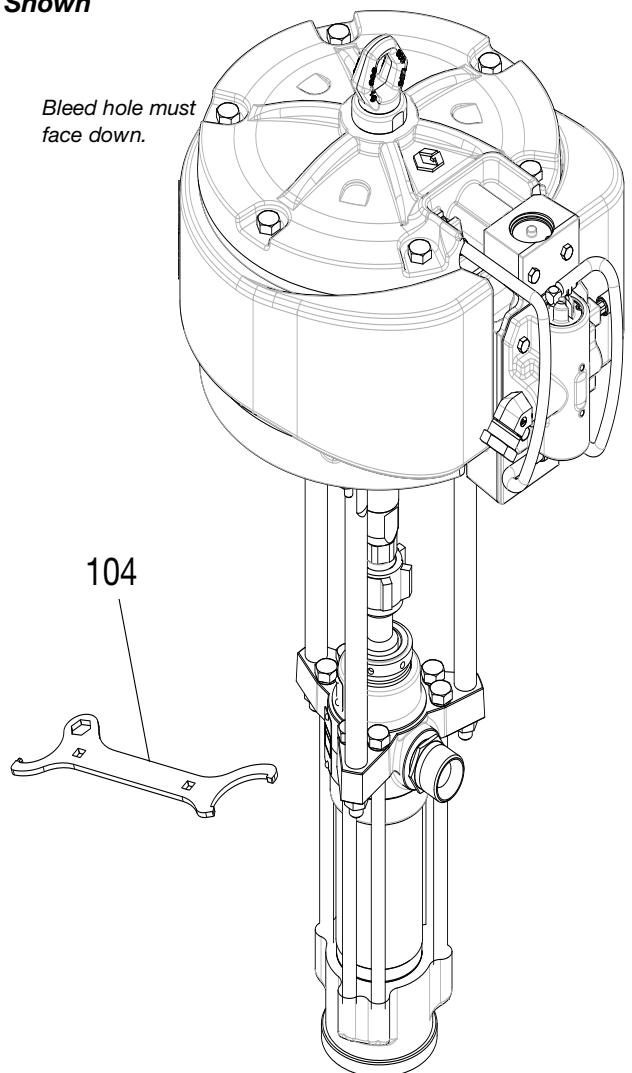

Fig. 6
Fill the packing nut/wet-cup (3) 1/3 full with Graco Throat Seal Liquid (TSL) or compatible solvent. See Fig. 6. Using wrench (104) (order separately), adjust the packing nut weekly so it is just snug; do not overtighten. Follow the **Pressure Relief Procedure** at left.
4. If the pump fails to prime properly, open the bleeder valve (35) slightly. Use the bleed hole on the underside of the valve body (34) as a priming valve until the fluid appears at the hole. See Fig. 6. Close the plug (35).
**NOTE:** When changing fluid containers with the hose and gun already primed, open the bleeder valve plug (35), to assist in priming the pump and venting air before it enters the hose. Close the bleeder valve when all air has been eliminated.
8. If the pump fails to prime properly, open the bleeder valve (35) slightly. Use the bleed hole, on the underside of the body (34), as a priming valve until the fluid appears at the hole. See Fig. 6. Close the plug (35).
10. Use the fluid pressure gauge (F) and flow control valve (G) to control the pump speed and the fluid outlet pressure. Always use the lowest hydraulic flow and pressure necessary to get the desired results. Higher pressures cause premature tip/nozzle and pump wear.